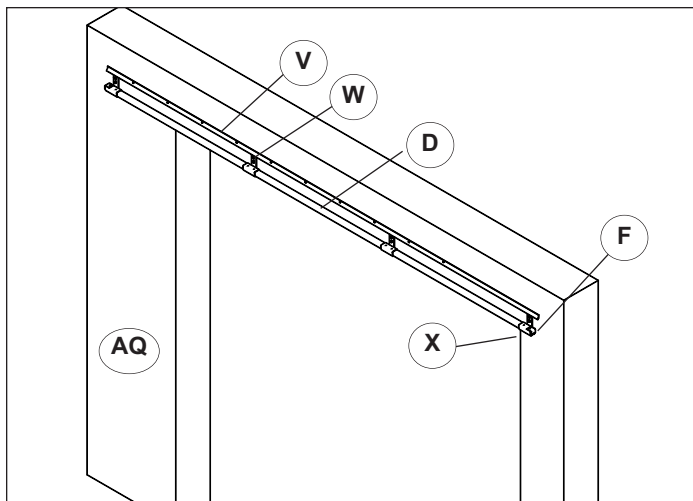
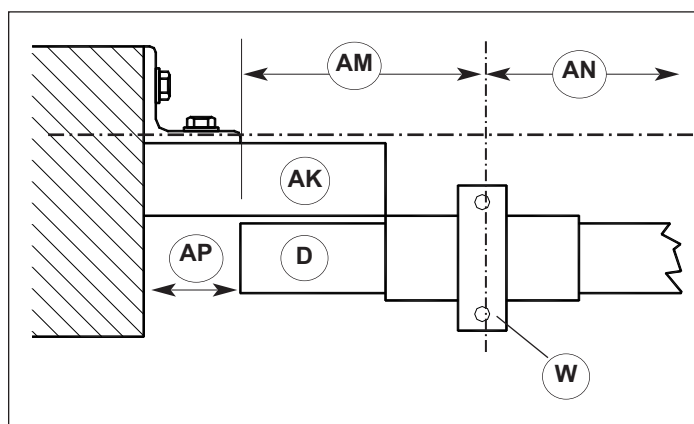

Figure 4.1
Figure 7.1
1. Install the track (D) by locating the bottom of the track hanger brackets (W) at the top of the door jamb or Ordered Door Height. Trolleys will hang approximately 1" [51] into the opening, **Figures 4.1 & 6.2**.
2. On non store side (X), locate inside edge of bracket, 5" [127] past the door opening.
3. Space all track hanger brackets, approximately 4' [1219] apart and mount the storage side (AQ) bracket flush with end of track. If the track is supplied in more than one piece, locate one bracket at each splice.
1. Install a 5" [127] piece of blocking (AK) and hardware (AL) (supplied by others) onto the jamb as shown in, **Figure 7.1**. The front face of the blocking should be in the center of the jamb.
2. Slide hanger brackets (W) onto the roller track. Place the first bracket at approximately 7" [178] (AM) from the end of the track and install the others approximately 4' [1219] (AN) apart, **Figures 4.1 & 7.1**.
3. Lift track with all the brackets up to the header and mount with fasteners supplied by others. Leave a minimum of a 2" [51] (AP) space at the front to install rollers.
4. Install curtain rollers into track through the spacing at the front of the jamb, **Figures 7.1 & 7.2**.